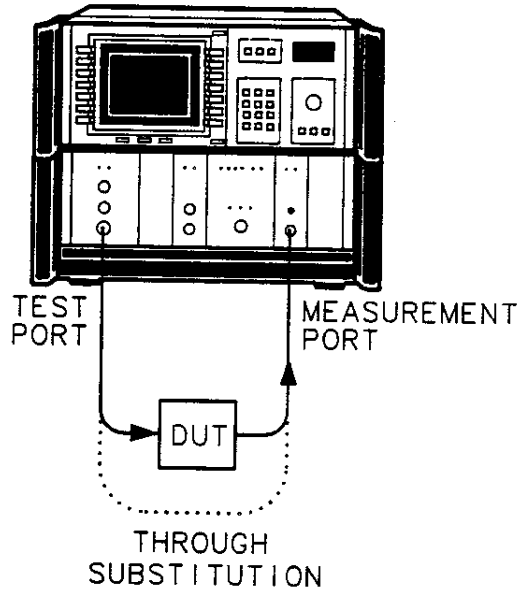

Figure 4-2. Transmission Normalization
The thru is the calibration standard for transmission measurements. Ideally, a thru calibration is achieved simply by connecting the output of the source (test port) to the input of the receiver (measurement port). Since the insertion loss between the test port and measurement port (Figure 4-2) should approach 0 dB, a *thru* provides a convenient reference point. The source and receiver connectors must match those of the DUT. For a more thorough understanding of measurement accuracy, see Appendix B, "Scalar Measurement Accuracy."
3. Replace the DUT and connect the test and measurement ports together (see Figure 4-2). If this is not possible because of connector differences, use a high-quality adapter.